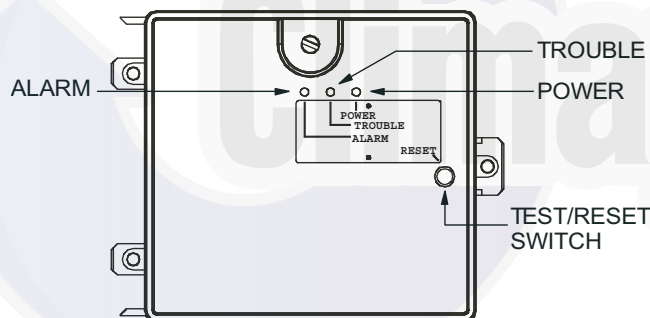

Fig. 27 — Controller Assembly
- The contacts on the controller’s supervisory relay switch positions. (See Fig. 27.)